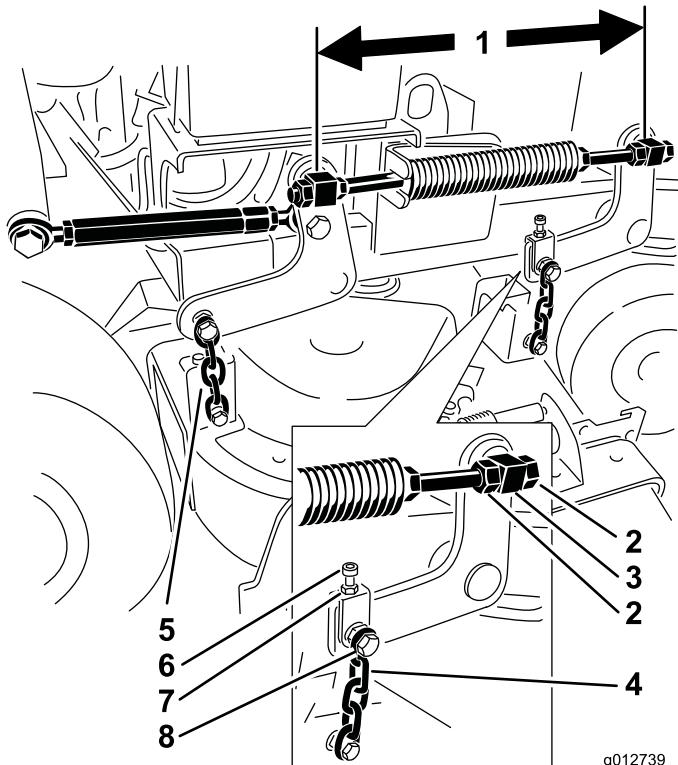

Figure 83
6. Check the distance between the swivels, measure at the center of the swivels (center-to-center length) on the threaded rod. This length needs to be 19-1/2 inches (49.5 cm) for 36in mower decks and 17-3/16 inches (43.7 cm) for 40in mower decks (Figure 83).
9. Use the jam nuts at the front swivel to adjust the length between front and rear swivels on that side (Figure 83).
11. Use the adjustment bolt to get equal tension on both front chains (Figure 83).
5. Loosen the nut on the upper chain bolt and the jam nut on the adjustment bolt (Figure 83).
6. Use the adjustment bolt to achieve 1/4 to 3/8 inch (6 to 10 mm) lower in front at **A** than in the rear at **B** (Figure 83).